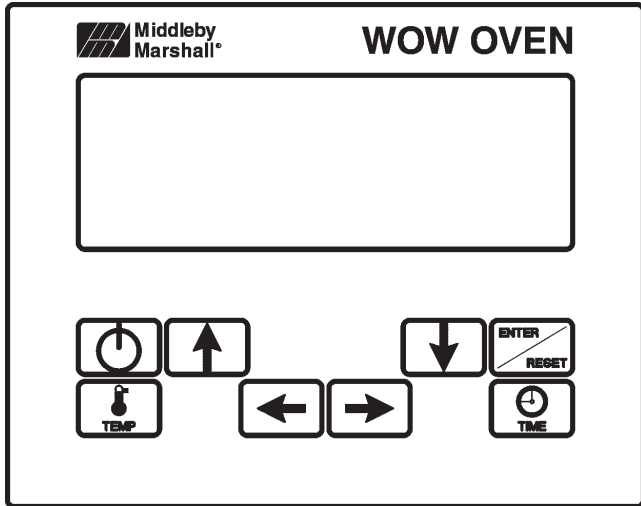

Figure 3-1 Screen Saver
1. When the unit has been "OFF" for more than 1 minute the controller will display the screen saver, as shown in Figure 3-1. To start operation, push the "Enter/Reset" button. The controller will display the "OFF" screen, as shown in Figure 3-2.